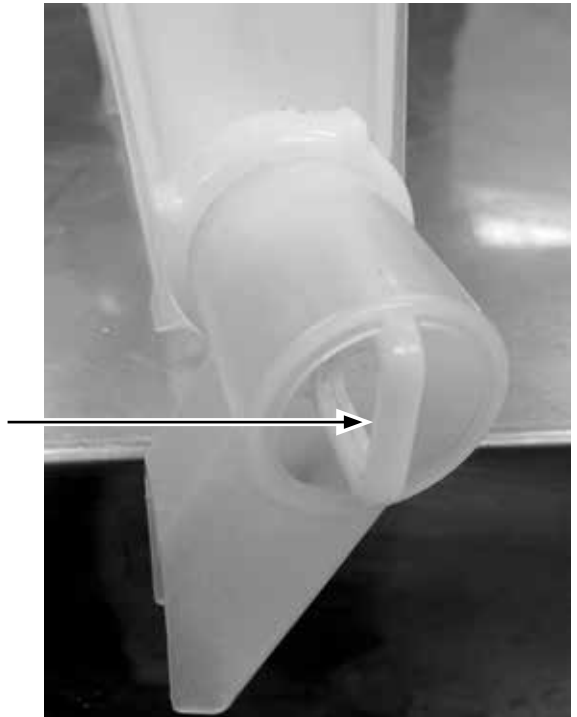

Figure 2
3. Set the hoppers on the counter, and push the slide gates on the front of the discharge chutes inward (see Figure 2) to close the gates.